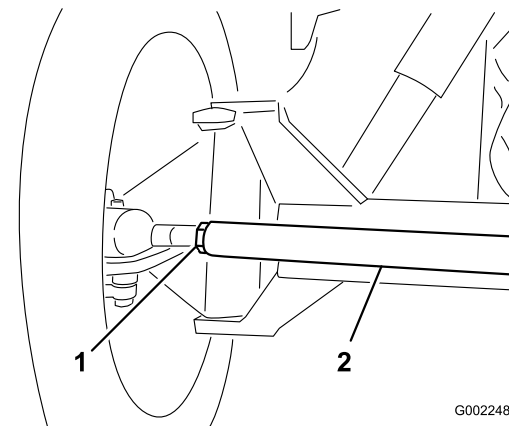

Figure 89
3. If the measurement does not fall within the specified range, loosen the jam nuts at both ends of the tie rod (Figure 89).